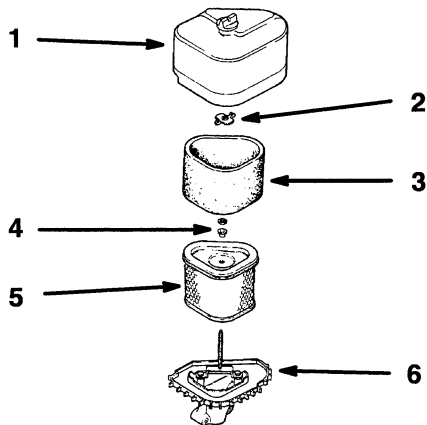

Figure 15
2. Clean around the air cleaner to prevent dirt from getting into the engine and causing damage. Unscrew the cover nut and remove the air cleaner cover (Fig. 15).
3. Remove the air cleaner assembly (Fig. 15).
4. Carefully slide the foam element off the paper element (Fig. 15).
1. Carefully slide the foam element onto the paper air cleaner element (Fig. 15).
2. Place the air cleaner assembly onto the air cleaner base (Fig. 15).
3. Install the air cleaner cover and secure with cover nuts (Fig. 15).